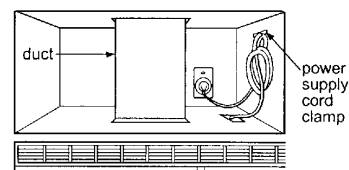

Figure 33
5. Roof venting installation: Install ductwork through the vent opening in the upper cabinet. Complete the venting system through the roof according to the method needed. See Figure 33. See PREPARE THE VENTING SYSTEM, STEP 2. Use caulking gun to seal the exterior roof opening around the exhaust cap. See Figure 6.
6. Use the power supply cord clamp to bundle the power supply cord. Install the power supply cord clamp, using a screw as shown in Figure 33, to inside of the cabinet.